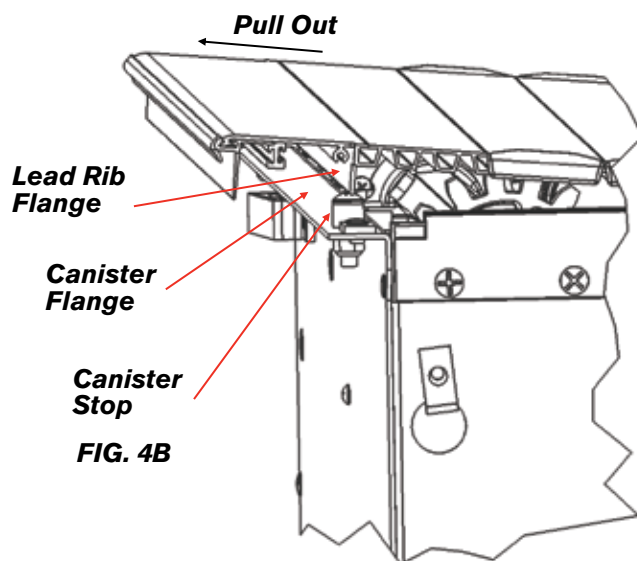
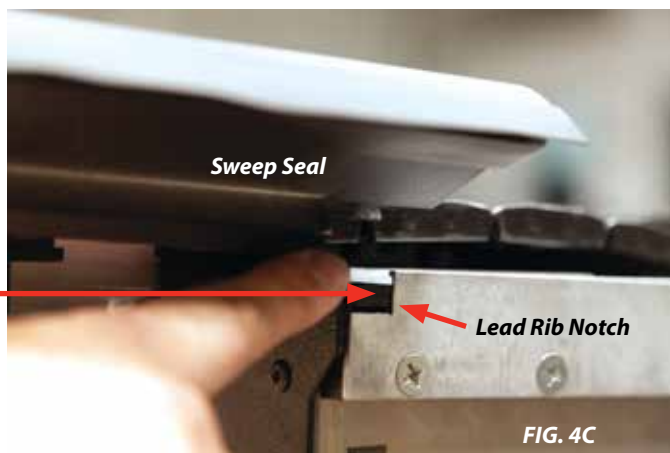

FIG. 4B
FIG. 4C
- First, make sure that the Lead Rib Flange is pulled toward the tailgate enough to clear the Canister Flange and Canister Stop (FIG 4B).
Figure 4B shows that the lead rib needs to be pulled out toward the tail gate. Now hook the rail into the rail guide and roll it down making sure to not get the sweep seal folded back into the rail (FIG 4C).